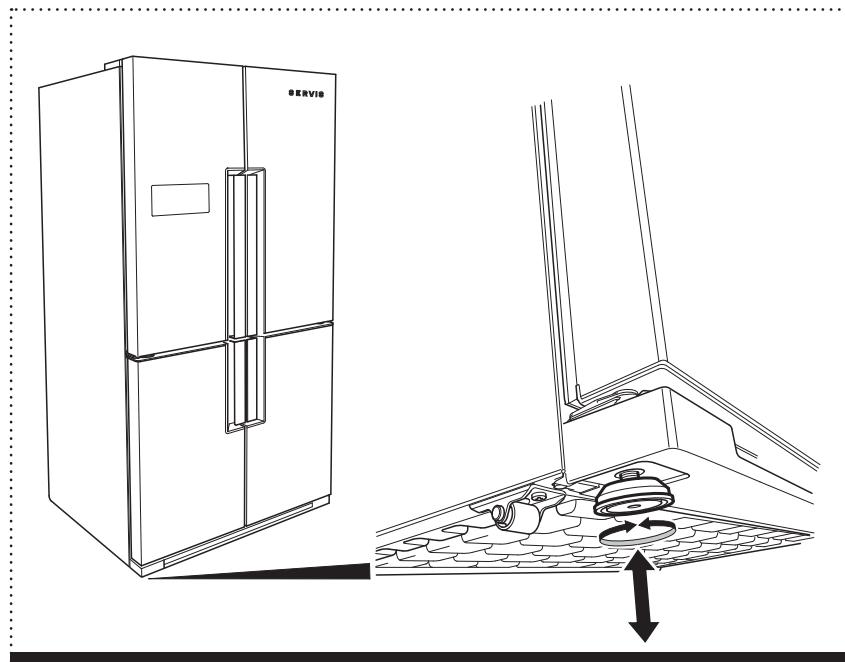

Figure 7
- ① To increase the height of the front of the Fridge Freezer, turn the feet clockwise (Figure 7).
- ② To decrease the height of the front of Fridge Freezer, turn the feet anti-clockwise (Figure 7).